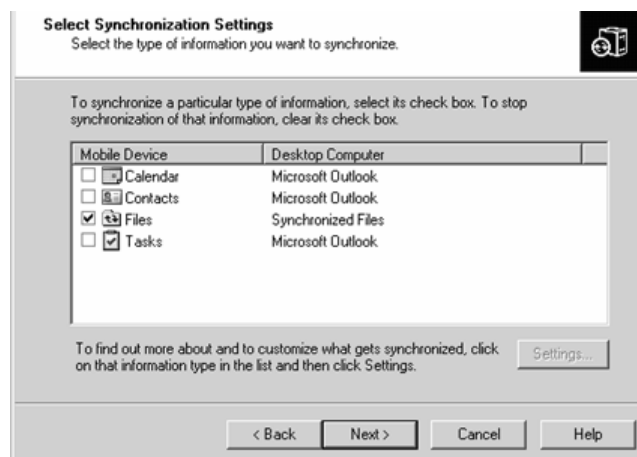

Figure 4-4 Selecting Synchronization Options
4. Select **Yes**, and then click **Next**. The Select Synchronization Settings options are displayed (Figure 4-4).